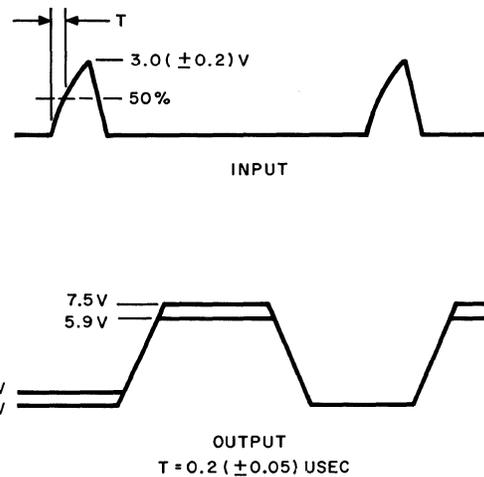

Fig. 33 — Monopulser Card Test
- (3) Rotate the INPUT selector through positions 1 to 6. The output pulse on J3 should appear as in Fig. 33. Time base measurements need not be made on the output waveform.